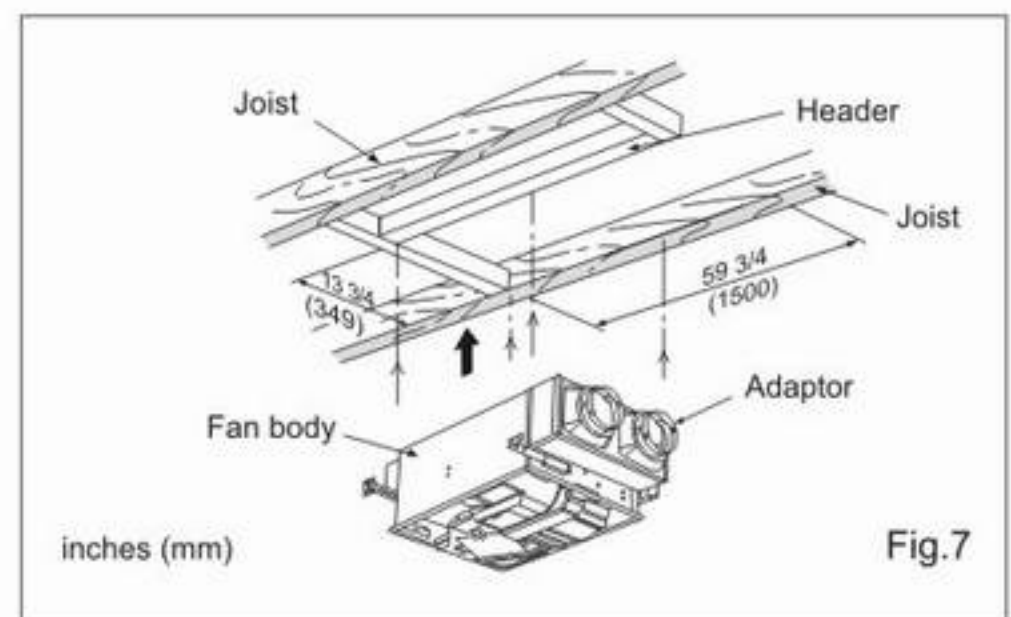

Fig.7
1. Install header between joists by using nails or screws. (Fig.7)
Insert the fan body between joists and header. Make sure the fan body is horizontal and vertical to the joists. (Fig.7)